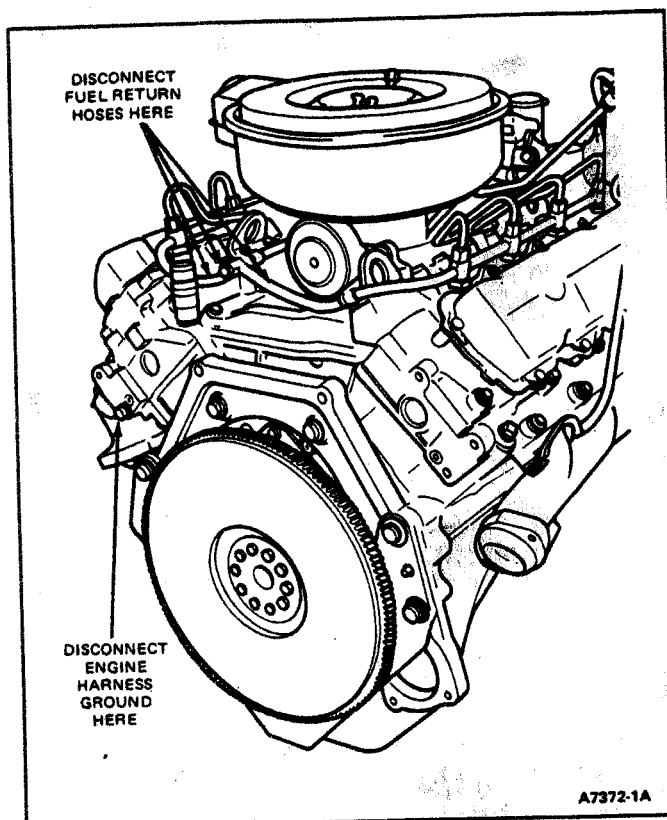

FIG. 55 Engine Wiring Harness Ground
9. On F-250—F-350, remove fuel return hoses from No. 7 and No. 8 (rear) nozzles and remove return hose to fuel tank (Fig. 55).
NOTE: Remove engine harness ground cable from back of left cylinder head (Fig. 55).
NOTE: Connect engine wiring harness ground wire to rear of left cylinder head and tighten to specification (Fig. 55).
18. Connect fuel tank return hose and No. 7 and No. 8 nozzle fuel return hoses (Fig. 55).